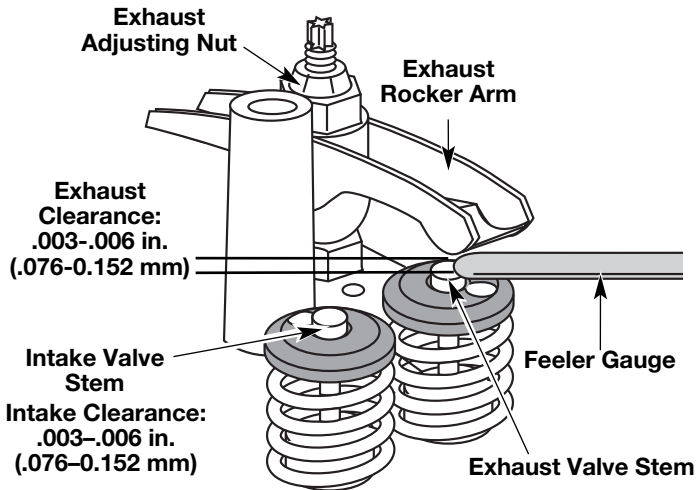

Fig. 67
Use a standard automotive feeler gauge at .005 (0.127mm). The feeler gauge should slide between the rocker arm and valve stem with a slight amount of resistance, without binding. Figure 67 shows how to measure the clearance.
- a. Turn the adjusting nut using a 5/16 inch (8 mm) wrench or nut driver (Fig. 67).